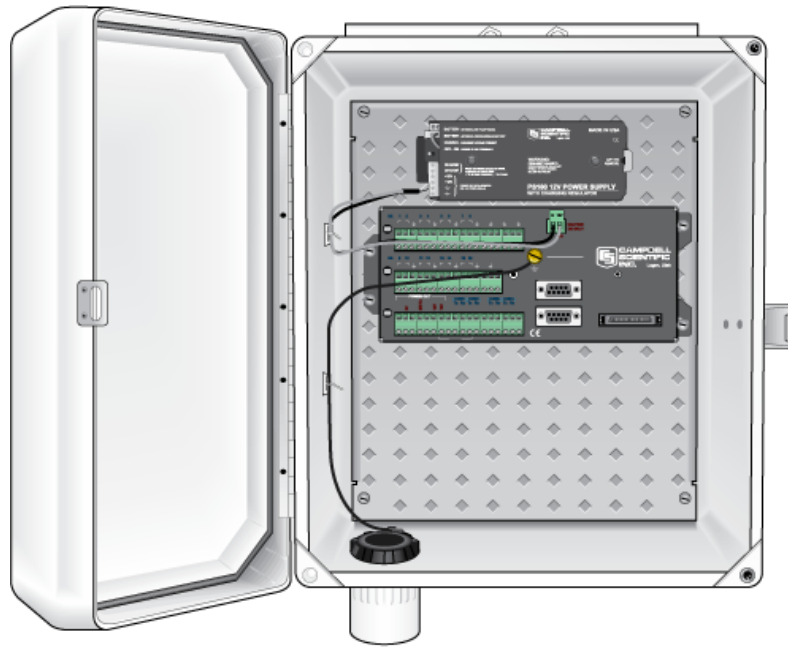

FIGURE 8-4. CR1000 and PS100 Mounted to an Enclosure Backplate
The datalogger includes hardware for mounting it to an enclosure backplate (see FIGURE 8-4). Either a BPALK or PS100 power supply is also typically housed in the enclosure if a CR800, CR850, or CR1000 is used. These power supplies also include hardware for mounting them to an enclosure backplate (see FIGURE 8-4).
3. An AC transformer or unregulated solar panel (Section 8.1.5, *Solar Panel*) should be connected to the PS100 at all times. Connect the lead wires from the transformer or solar panel without regard to polarity to the two terminals labeled “CHG” (FIGURE 8-4); the red LED should light when voltage is present.